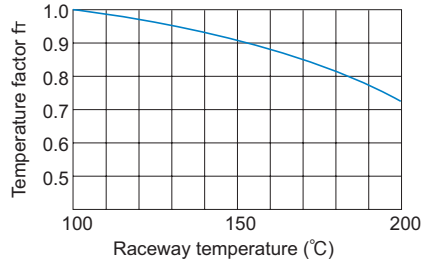

Fig.2 Temperature Factor (f_t)
- C : Basic dynamic load rating (N)
- P_C : Calculated load (N)
- f_T : Temperature factor (see Fig.2 on A-539)
If the temperature of the environment surrounding the operating Linear Bushing exceeds 100°C, take into account the adverse effect of the high temperature and multiply the basic load ratings by the temperature factor indicated in Fig.2.